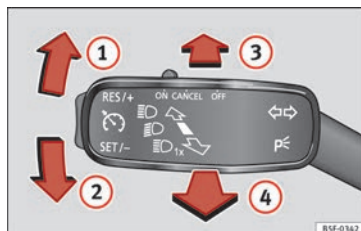

Fig. 131 Turn signal and main beam lever.
- Move the lever » **Fig. 131** up **1** or down **2**.
- Press the lever » Fig. 131 forward in the direction indicated by arrow ③.
- Pull the lever back to its original position in the direction indicated by arrow ④ to switch the main beam off.
- Pull the lever » Fig. 131 towards the steering wheel (point of resistance) in the direction indicated by arrow ④.
- Move the turn signal lever »» **Fig. 131** »» page 118 up or down to turn on the right or left-hand parking lights respectively.